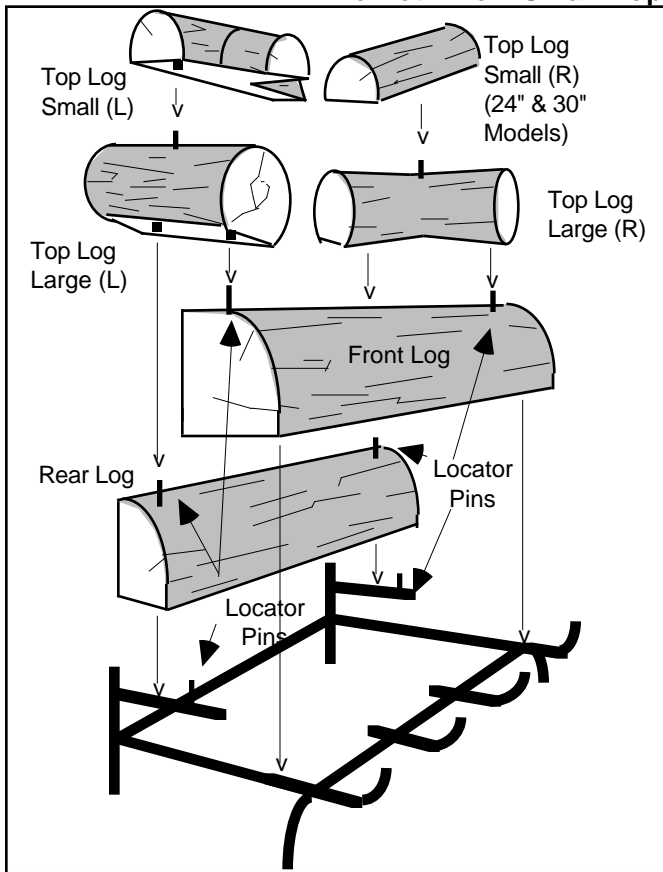

Figure 7
1. Place the largest log (FRONT LOG) on the front of the grate and the second largest log (REAR LOG) on the rear of the grate behind the LOCATOR PINS. **Fig. 7 and 8.**
3. Place R and L SMALL TOP LOGS across the FRONT LOG and LARGE TOP LOGS with the LOCATOR PINS inserted into the drilled holes located on the bottom of both LARGE TOP LOGS. **Figures 7 and 8.**